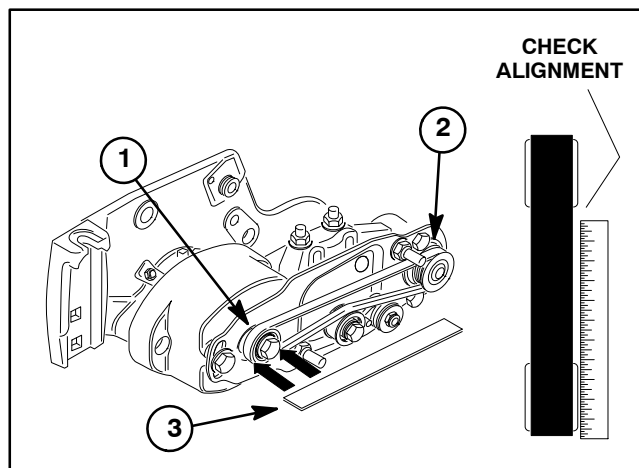

Figure 60
5. Check alignment of pulleys with a straight edge placed along the outer face of the driven pulley (Fig. 60). The outer faces of the driven and drive pulleys (not the idler pulley) should be in line within 0.030" (0.76 mm). If necessary to align pulleys, remove driven pulley from brush shaft and add or remove hardened washer(s) (item 9) until drive and driven pulleys are aligned within 0.030" (0.76 mm).